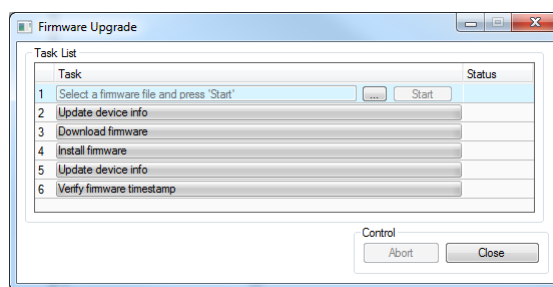

Figure 102: Firmware Update dialog of the Configurator
6. This opens the Firmware Update dialog as shown in Figure 102. Click on the button  and select the firmware image.